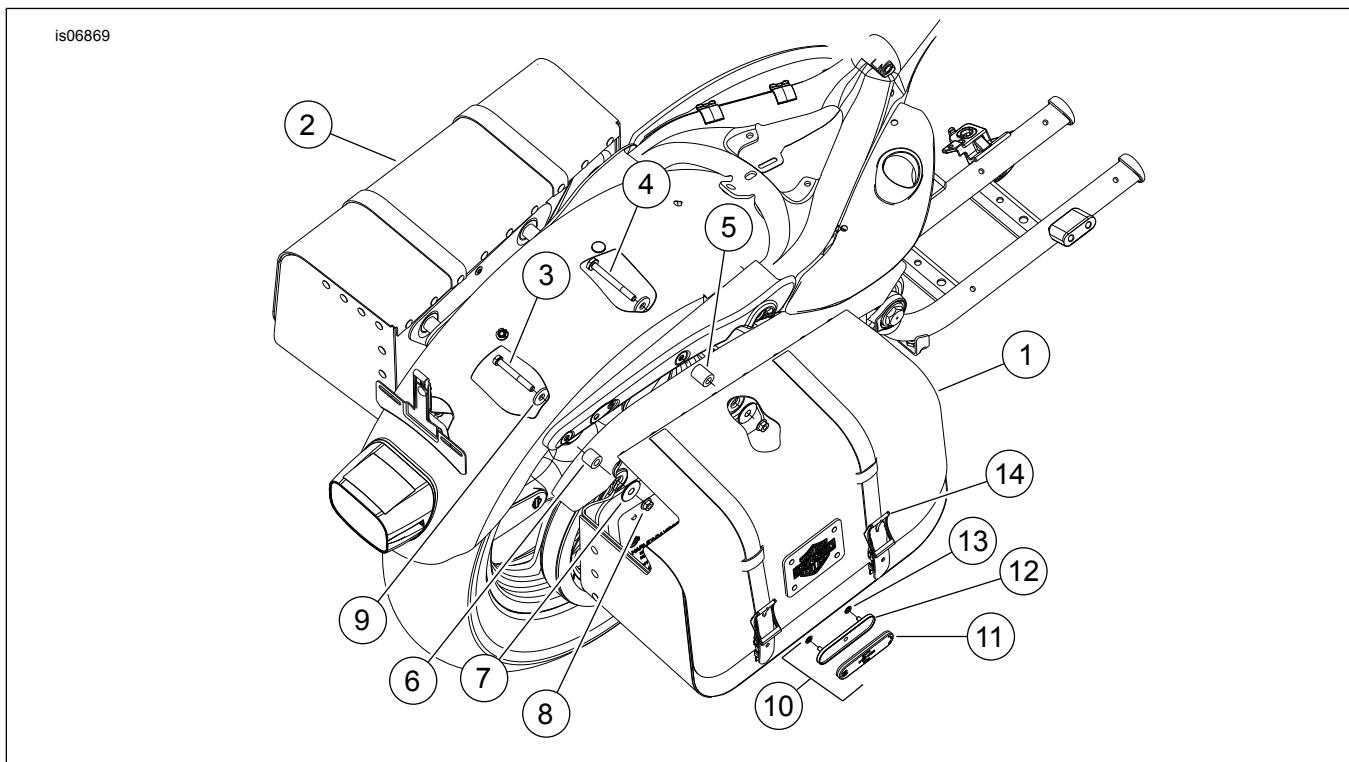

Figure 2. Service Parts: Express Rider Saddlebag Kit
See Figure 2 and Table 1.
- See Figure 2. From the underside of the fender, install screw (3) and washer (9) from kit through the rear fender hole and screw (4) and washer (9) through the front fender hole and into the fender support and cover, where the two button head screws were previously removed in Step 4.
- Install the short spacer (6) onto the rear bolt and the long spacer (5) onto the front bolt.
9. Thread top-hat washers (7) and flange locknuts (8) to bolts on the inside of the saddlebag. Make sure that the smaller diameter of the top-hat washer is inserted into the plastic tub of the saddlebag. Tighten both flange locknuts to 33–37 N·m (24–27 ft-lbs).
2. See Figure 2. Position reflector mount (12) on saddlebag.
5. Using soapy water, clean the reflector mounting surface of the reflector mount (12).
7. Remove backing from adhesive on reflector (11) and install on mount (12).
9. Install reflector mount (12) on saddlebag using two push nuts (13).